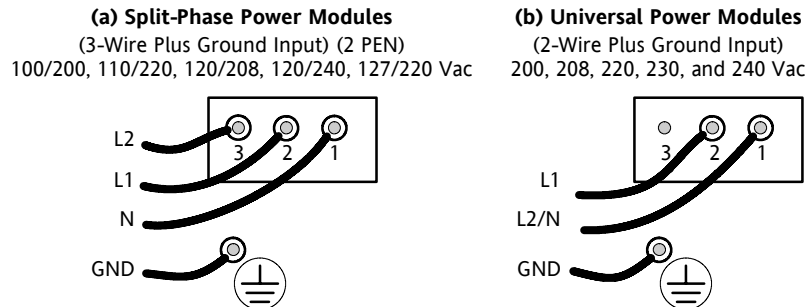

Figure 18. UPS Input Wiring
8. Wire the UPS for the proper input voltage as shown in Figure 18.
Confirm that the UPS is wired for the proper input voltage as shown in Figure 18, and that the proper power modules (either split-phase or universal) are installed to produce the desired output voltage. Do not mix the two types of power modules in the same UPS cabinet.